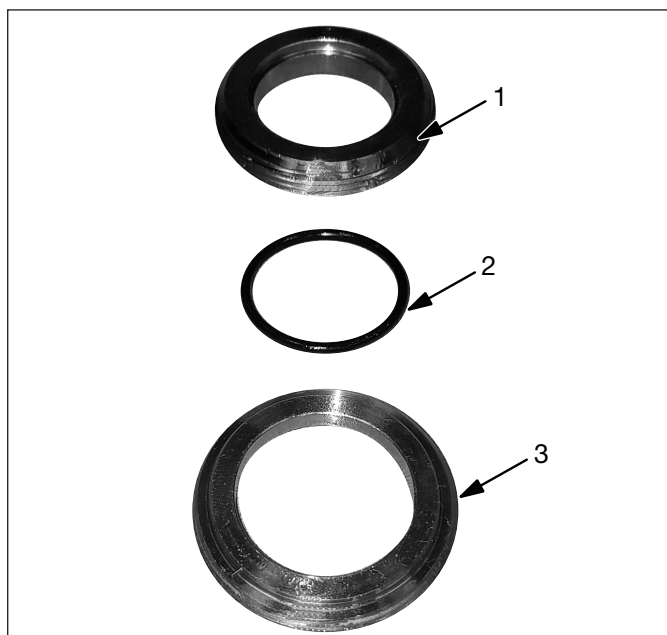

Figure 9, Stop Ring, Guide Ring, and O-ring (View 2 of 2)
- Separate stop ring, guide ring and O-ring (Figure 9, Items 1, 2 and 3) that were removed in step 4. Discard O-ring (Figure 9, Item 2).
- With a spanner wrench, install stop ring, guide ring and O-ring (Figure 9, Items 1, 2 and 3).